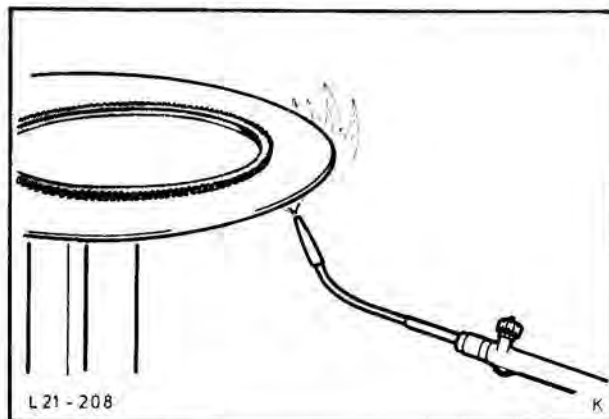

Fig. 240. Heat up ring gear
3. Place new ring gear on a plate some 2 to 3 mm (0,08–0,12 in) thick and heat up plate to 530–550 °K (260–280 °C) (500–540 °F) from below, in area of ring gear itself, using a welding torch to give uniform heating, Fig. 240.